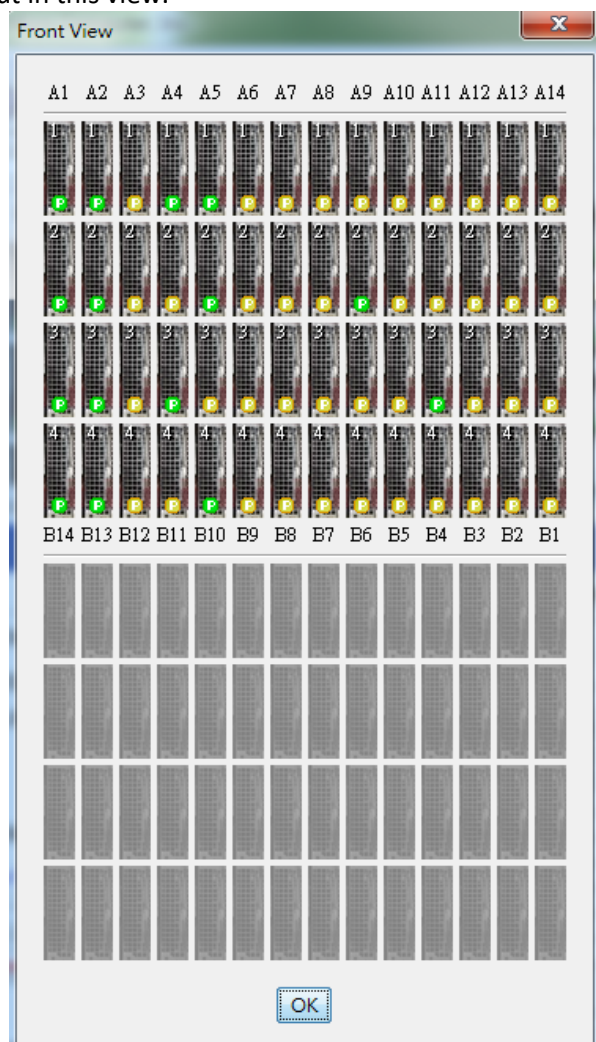

Figure 2-3
3. **Front View:** Click this button and an additional panel appears, which displays the whole node view without a scroll bar (see Figure 2-3). There will be a maximum of 128 nodes. If a blade is not installed, it is grayed out in this view.